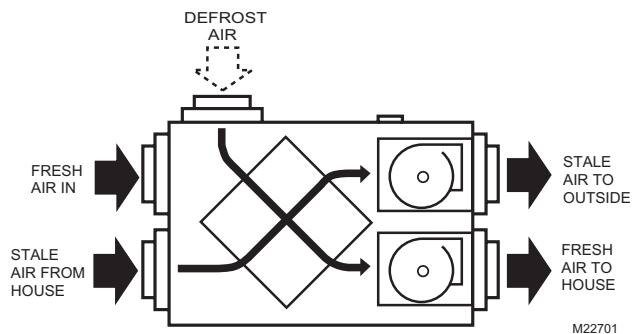

Fig. 2. Duct connections and airflow.
The Fresh Air Ventilation System is designed to supply fresh air and exhaust stale air. The system draws fresh outdoor air through the ventilator for distribution throughout the house. Stale air is exhausted through the ventilator to the outdoors. Heat is transferred from one airstream to the other as the air passes through the opposite sides of the heat transfer core. See Fig. 2.
1. Mount the four vibration isolation straps (provided) to the side of the ventilator using the mounting screws located on the cabinet. See Fig. 2 and 3.